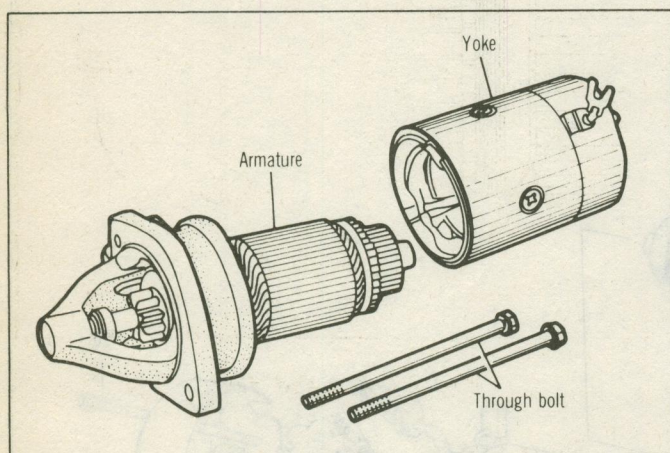

Fig. 5 Removing Yoke Assembly
(2) Remove the two through bolts, and the assembly can be separated into the armature and yoke. (Fig. 5)